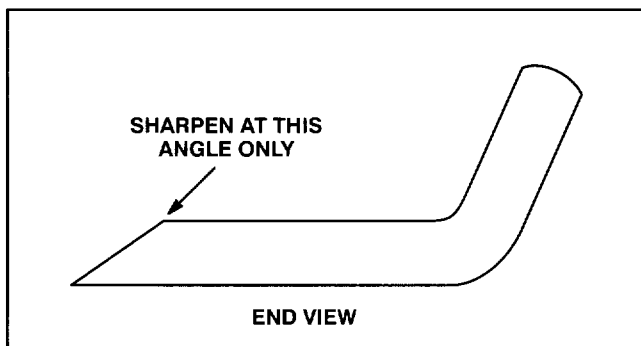

Figure 36
3. Inspect cutting edges of all blades. Sharpen the cutting edges if they are dull or nicked. Sharpen only the top of the cutting edge and maintain the original cutting angle to make sure of sharpness (Fig. 36). The blade will remain balanced if same amount of metal is removed from both cutting edges.